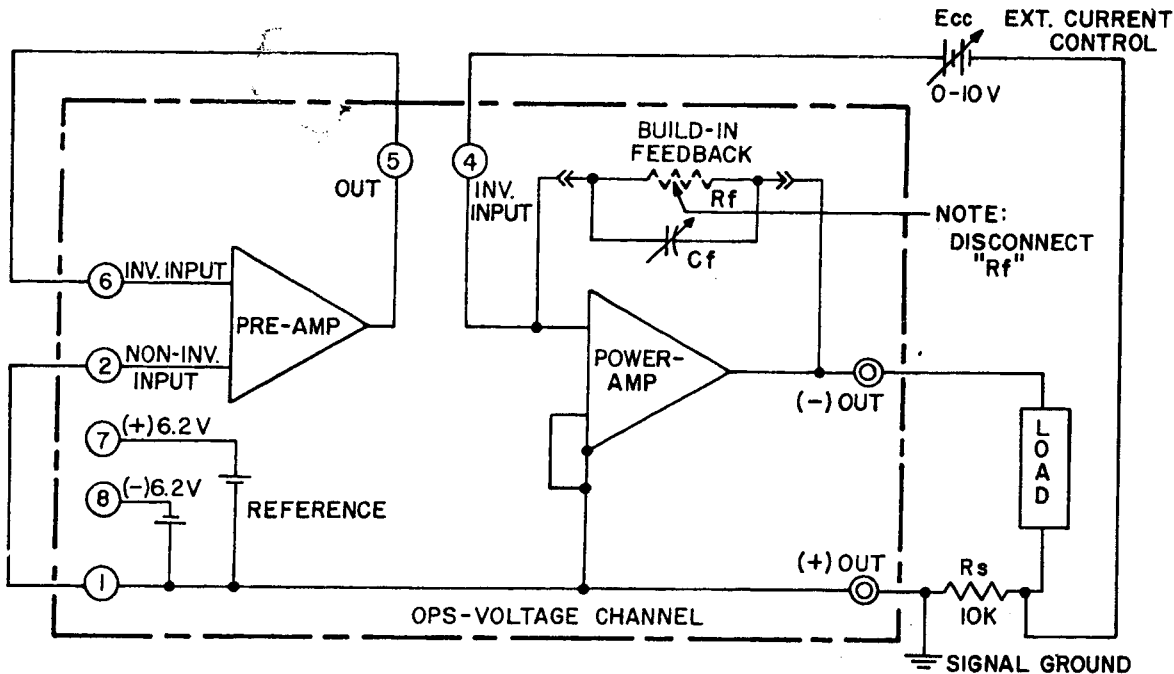

FIG. 3-17 EQUIVALENT DIAGRAM, OPS WITH EXTERNAL SENSING AND OUTPUT CURRENT CONTROL BY A CONTROL VOLTAGE.
3-63 The transfer function for output control by voltage is derived from FIG. 3-17 below and can be expressed by:
**NOTE:** This equation (Eq. 3) is derived from the equivalent diagram (FIG. 3-17), and is valid for the "zeroed" OPS. The range of the internal OPS ZERO control permits sensing resistor values up to approximately 50 k ohm.
3-64 The circuit shown in FIG. 3-17 is suitable for output current from the rated maximum output current down to 1 microampere. The necessary value for the sensing resistor ( $R_s$ ) is given in FIG. 3-17 for a control voltage ( $E_{cc}$ ) of 0-10 volts and an output current range of 0-1 milliampere. For other control voltages and/or output current ranges,  $R_s$  can be calculated using the output equation (Eq. 3).